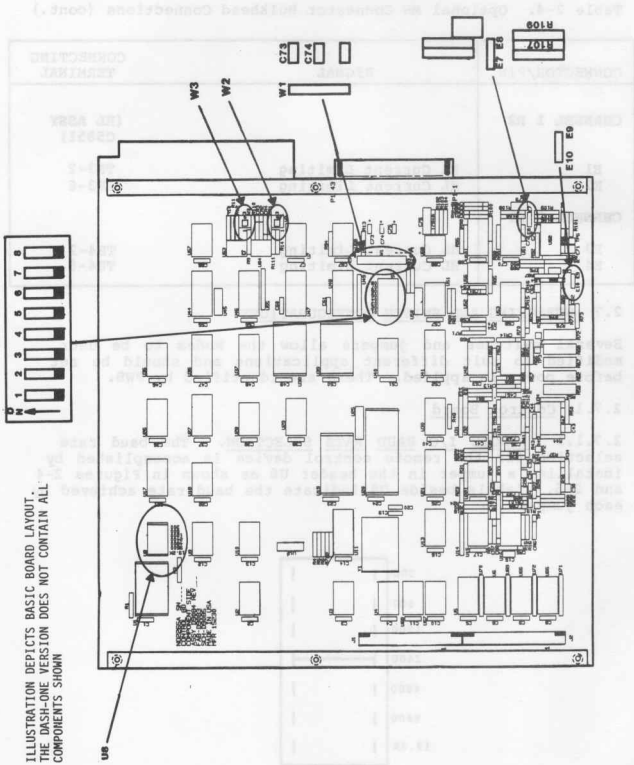

Figure 2-5. Expanded View of Control Board
2.7.1.2 REMOTE I/O DEVICE ADDRESS SELECTION. The remote control device address is selectable by switch S1 as shown in Figure 2-5. The address selected by each switch is labeled beside the switch from 01 through 08.
2.7.1.3 PWB JUMPERS. The following jumpers, illustrated in Figure 2-5, are provided for operations as follows.